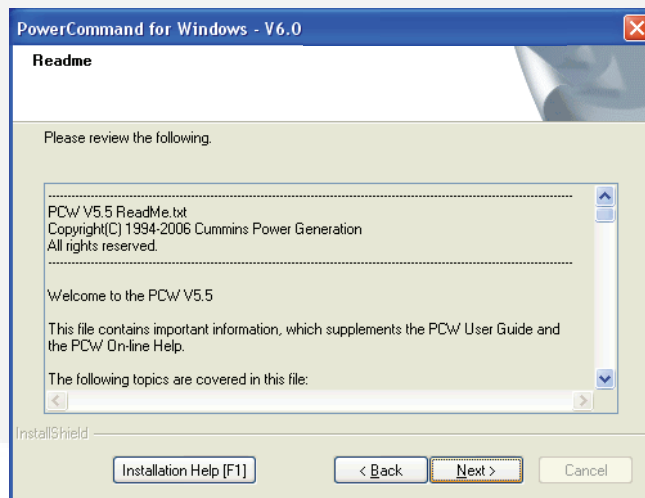

FIGURE 2-8. README FILE
9. If View Readme was selected, use the scroll bars to access the information that is provided in the Readme file. Click on the **Next** button when finished reviewing this text. Figure 2-8.